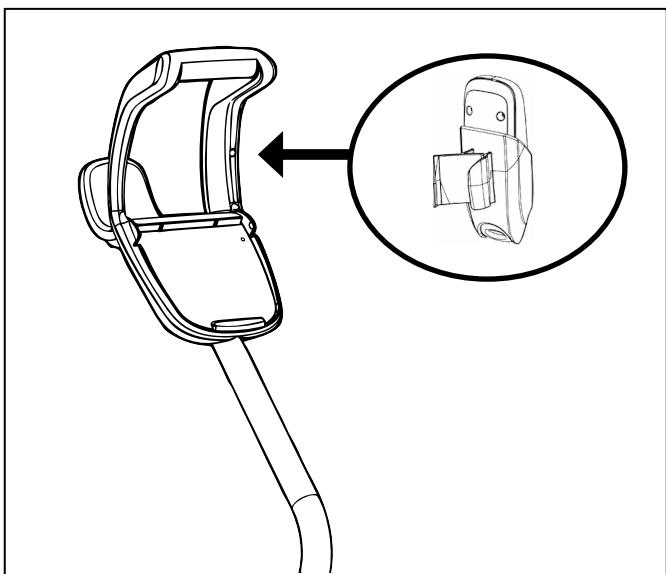

Figure 8. Snap Remote Control holder into Place
9. **(9550 Sport/P955)** Locate pin on the remote control holder and align it with the receptacle on the handle of the caddy to attach the remote control unit to caddy (Figure 8).